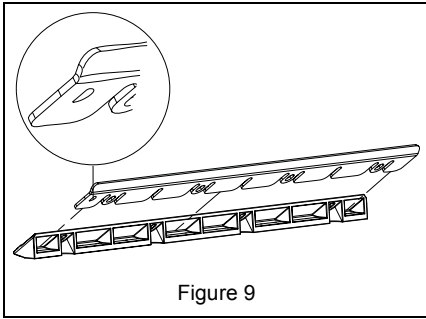

Figure 9
5. Insert scraper support into new scraper blade. The D-shaped cutout must be on the left (drive belt side). See Figure 9.